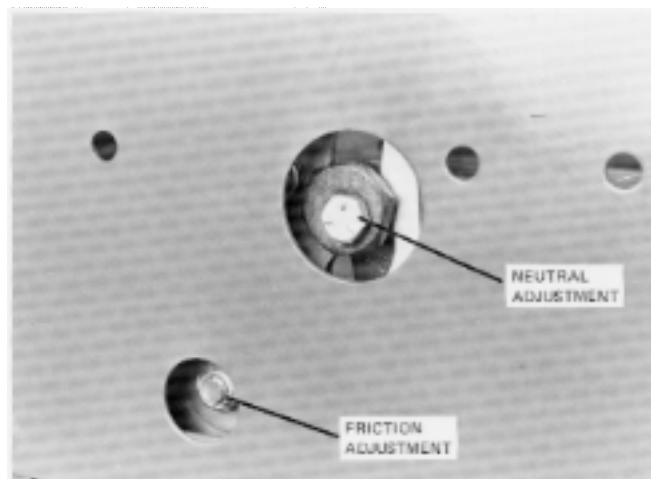

Fig. 5-20 D-Series, Friction and Neutral Adjustment
2. Loosen the cap screw holding the eccentric assembly. See Fig. 5-20.
The motion control lever is friction-loaded to hold a selected speed in either direction. If the lever does not remain where it is set during operation, the friction may be increased by tightening the adjusting nut through the access hole located in the right panel. See Fig. 5-20.